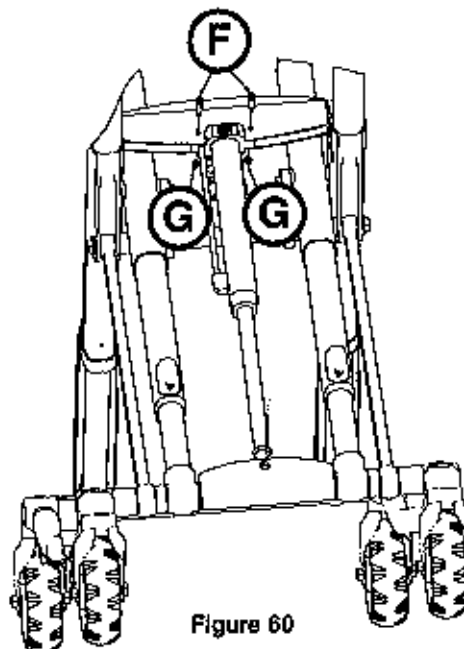

Figure 60
7. Using a 1/8" hex wrench and 3/8" combination wrench, remove the two socket head set screws (F) and Fiberlock hex nuts (G) that secure the hydraulic cylinder to the base (Figure 60).